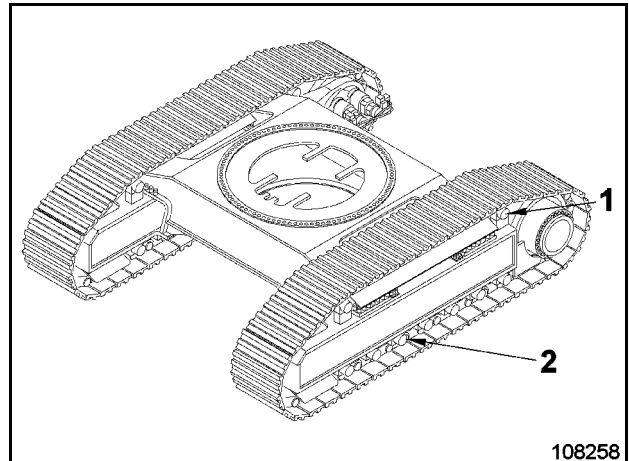

Fig. 3-105:
- Clean support and track rollers (1 and 2 ,Fig. 3-105:) thoroughly.